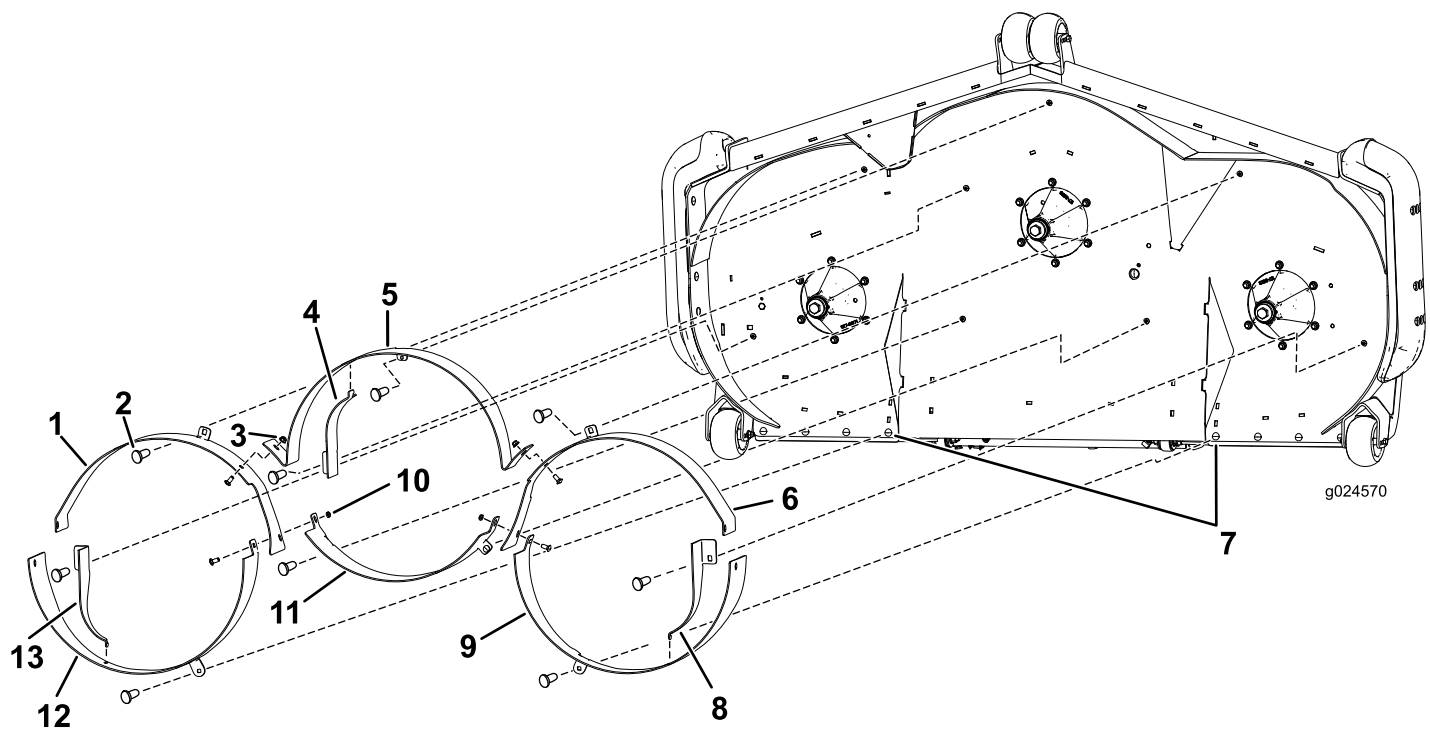

Figure 2
1. Install the front, outer baffles using 1 carriage bolt (3/8 x 7/8 inch) and 1 flange nut (3/8 inch) per baffle (Figure 2).
2. Install the front, center baffle using 3 carriage bolts (3/8 x 7/8 inch) and 3 flange nuts (3/8 inch) as shown in Figure 2.
3. Install the rear, outer baffles using 1 carriage bolt (3/8 x 7/8 inch) and 1 flange nut (3/8 inch) per baffle Figure 2.
Note: The 72-inch model uses 1 carriage bolt (5/16 x 1 inch) and 1 flange nut (5/16 inch) in the rear of the right baffle, left baffle, and inner-most square hole on the inboard tire flap on each side (Figure 2).